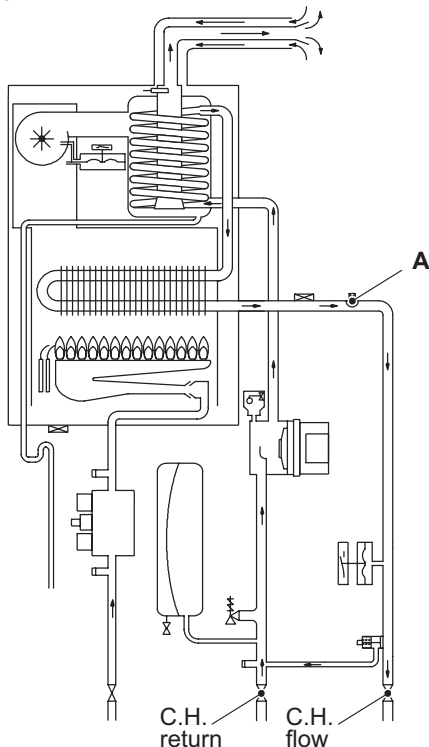
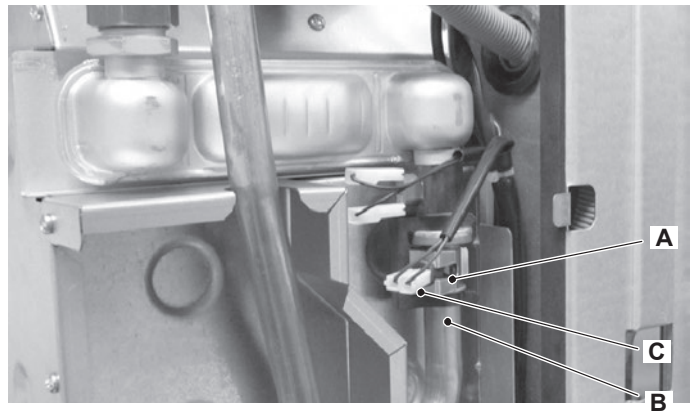

Figure 12.2
Figure 12.3
On the boiler there is one Temperature probe on the output of the primary heat exchanger (C.H. temperature probe) A in Figure 12.2 and Figure 12.3.
- 2 Remove the electric connector C and remove the C.H. temperature probe A (Figure 12.3).